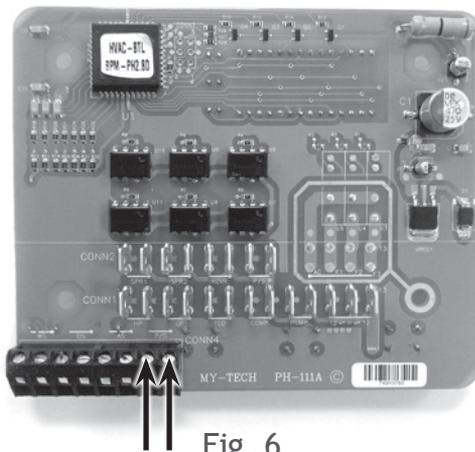

Fig. 6
4. Connect remote system with 2 wires to the P/S terminal on control board. Figure 6 shows you where to connect the 2 wire remote systems to the temperature controller.